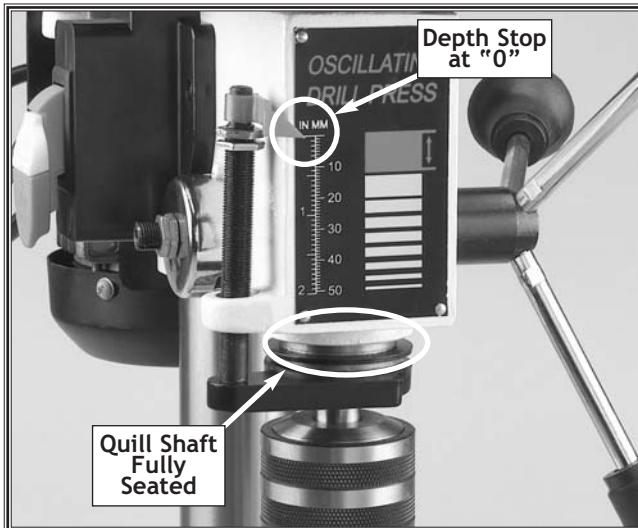

Figure 19. Quill shaft fully seated.
3. Make sure the quill shaft is completely seated and the depth stop reads "0". See **Figure 19**.
4. Put on thick leather gloves and hold the spring cover against the side of the headstock so the cover stays splined with the locking lug; remove the jam nut and loosen the cover nut approximately $\frac{1}{4}$ " (6.4mm). See **Figure 19**.